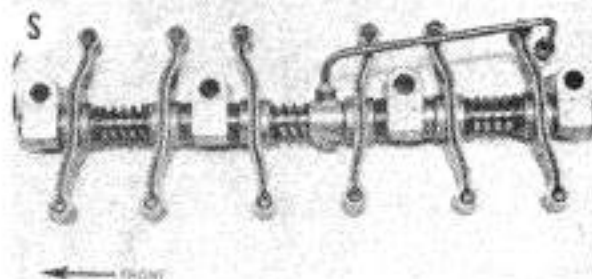

Fig. 65—Assembled view of rocker arm assembly. Slot (S) in end of shaft should be toward front.
63. The rocker arms and shaft assembly can be removed after removing the hood, fuel tank and rocker arm cover. The rocker arms are right-hand and left-hand units and should be installed on shaft as shown in Fig. 65.